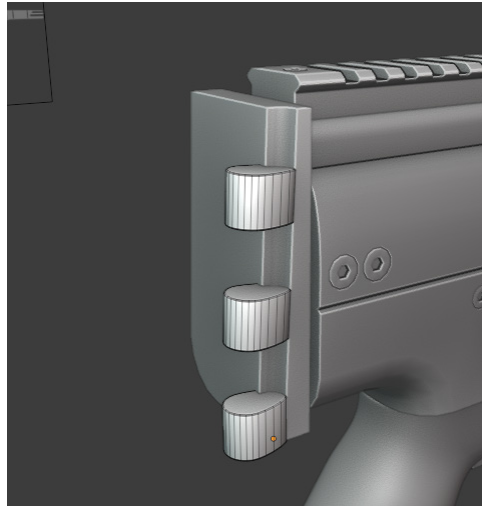

Figure 3.58 – Stock connector
12. Duplicate the shape twice and arrange it as in *Figure 3.58*. This will act as a hinge, which can be used to fold the stock.